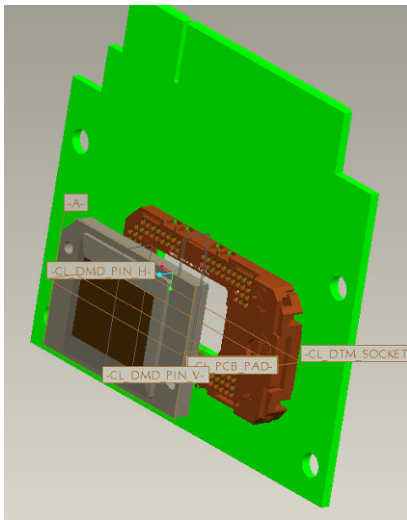

Fig. 5-3
5.2. Alight keying and Assemble DMD to Chip B/D (Fig. 5-3).